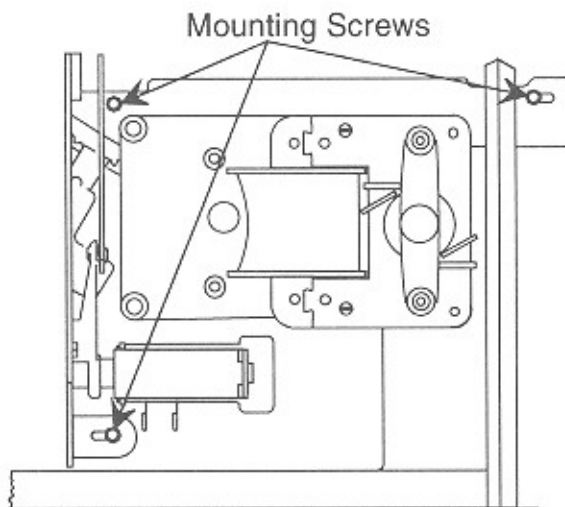

Figure 6-8. Sprag Assembly Removal
1. To remove the sprag assembly, disconnect the wires to the solenoid and motor, remove the three mounting screws, and slide the assembly out of the right side of the mechanism (See Figure 6-8).